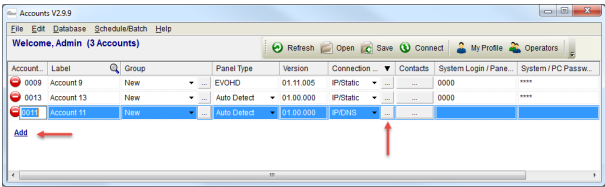

Figure 6 – Accounts Window
- b. Select the **Additional Info** box in the **Connection** window (see Fig. 6 above).